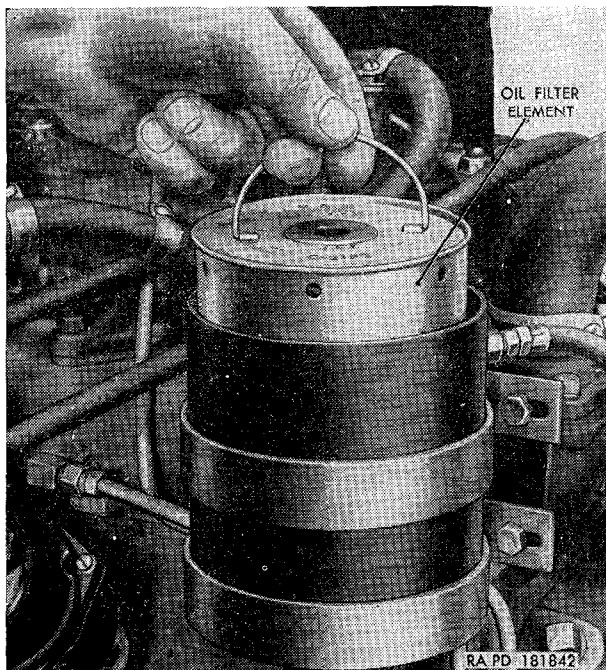

Figure 50. Removing oil filter element.
- (2) Unscrew cover bolt and lift the oil filter cover off the oil filter case. Remove and discard the cover seal from the inside of the cover. The cover spring, located on the inside of the cover, seats on the bolt. It is not necessary to pull the spring off the bolt.
- (3) Wipe the top surface of the oil filter element (fig. 50) clean, grasp handle on element, and lift element out of the oil filter case. Clean inside of case with dry-cleaning solvent or volatile mineral spirits.
- (1) Align the hole in the new oil filter element (fig. 50) with the mounting stud in the oil filter case and slide the element down on the stud, making certain the element seats properly in the case.